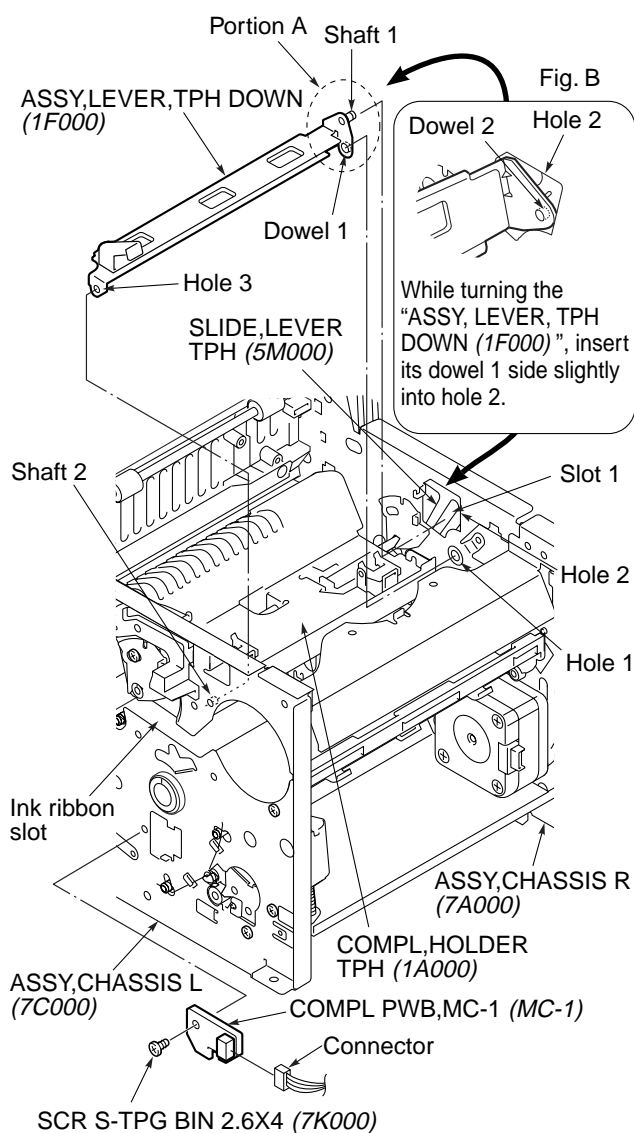

Fig. 3-3-2
- 5) Remove dowel 1 on the "ASSY, LEVER, TPH DOWN (1F000)" from hole 1 on the "ASSY, CHASSIS R (7A000)". (Refer to Fig. 3-3-2.)
- 6) Insert dowel 1 side of portion A on the "ASSY, LEVER, TPH DOWN (1F000)" into hole 2 on the "ASSY, CHASSIS R (7A000)" as shown in Fig. B of Fig. 3-3-2.
- 7) While press the "ASSY, LEVER, TPH DOWN (1F000)" approximately 2mm to the "ASSY, CHASSIS R (7A000)" side, pull hole 3 on the "ASSY, LEVER, TPH DOWN (1F000)" out from shaft 2 on the "ASSY, CHASSIS L (7C000)". (Refer to Fig. 3-3-2.)
- 8) Be careful not to distort the "ASSY, CHASSIS R" and pull portion A out from hole 2 and remove the "ASSY, LEVER, TPH DOWN (1F000)". (Refer to Fig. 3-3-2.)
- 10) Remove the "SCR S-TPG BIN 2.6X4 (7K000)" and remove the "COMPL PWB, MC-1 (MC-1)". (Refer to Fig. 3-3-2.)